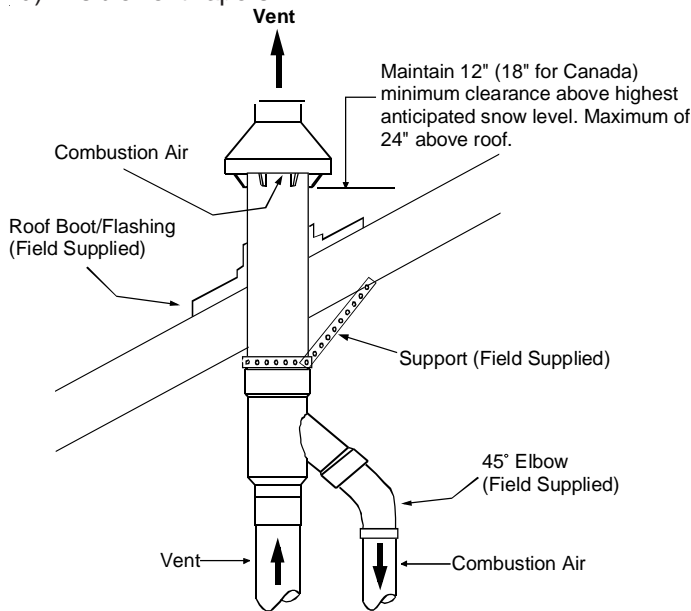
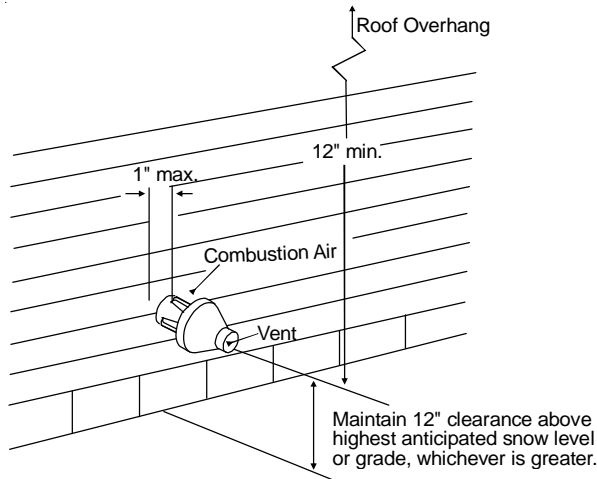
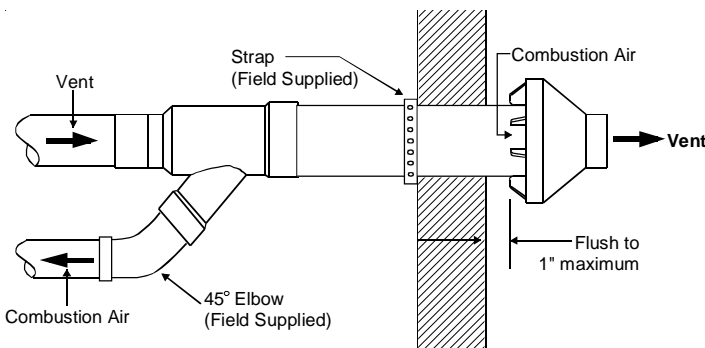

FIGURE 3
FIGURE 6
FIGURE 7
- Determine the best location for the termination kit. See Figure 3 for vertical termination or Figure 6 and Figure 7 for horizontal termination. Roof termination is preferred since it is less susceptible to damage, has reduced intake contaminants and less visible vent vapors.
- Secure the assembly to the structure as shown in Figure 3 or Figure 7 using field supplied metal strapping or equivalent material.
- Ensure the termination height is above the roof surface or anticipated snow level as shown in Figure 3 for vertical termination.
- Ensure the termination location clearance dimensions are as shown in Figure 6 and Figure 7 for horizontal termination.
- Cement the furnace combustion air and vent pipes to the concentric vent termination assembly. See Figure 3 or Figure 7 for proper pipe attachment.